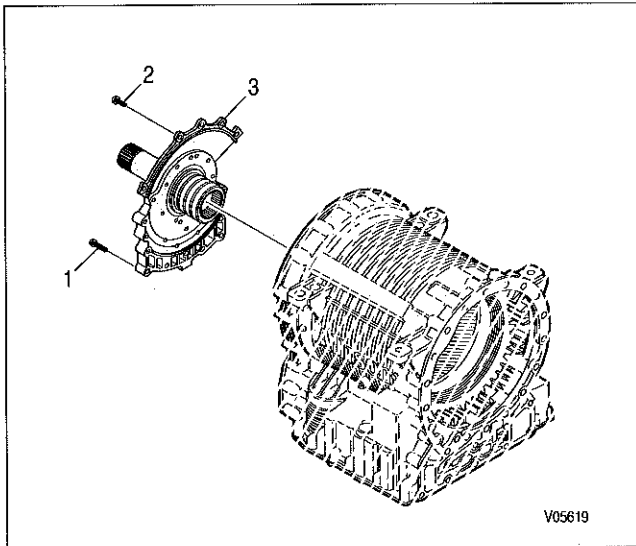

Figure 4-15. Front Support/Oil Pump Module Removal
### q. Removal of Front Support/Charging Pump Module and Rotating Clutch Module (Figures 4-15, 4-16)
1. Remove six bolts 1 and five bolts 2 (Figure 4-15) that retain front support and charging pump module 3 to the main housing.